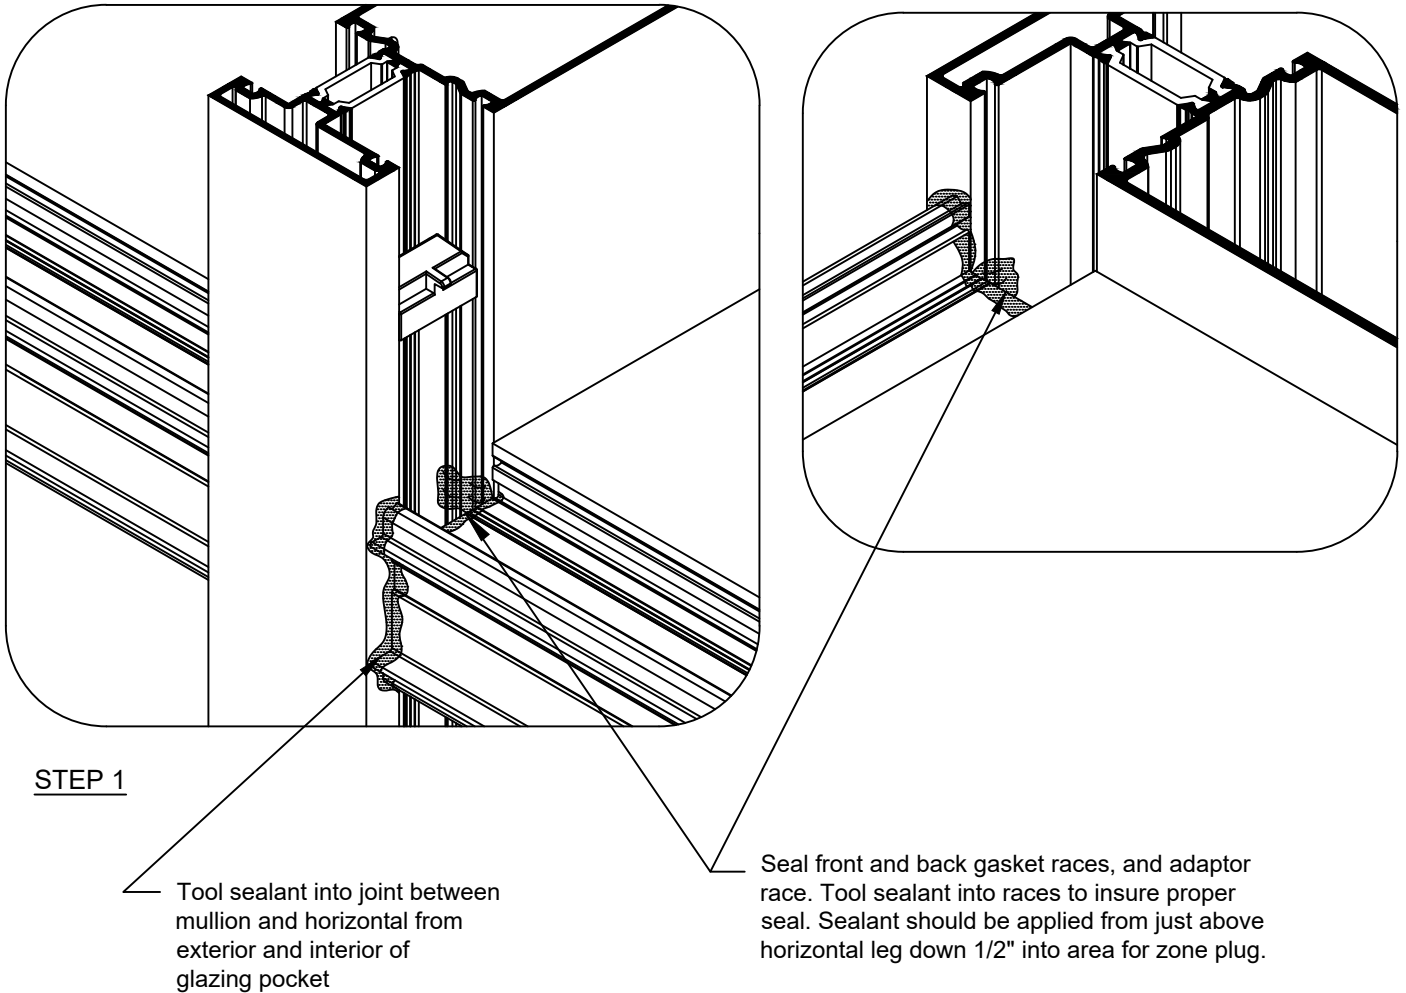

FIGURE 15
- 2.5 Apply sealant to all contact surfaces on vertical and horizontal mullions where zone plugs will be installed. Install at the end of each horizontal mullion by sliding plug down into pocket from above. Tool sealant around all sides of the zone plug in the glazing pocket to ensure a watertight seal. **SEE FIGURE 15 below & page 20 for System 1, SEE FIGURE 16, page 21 for System 2 installation.**
FIGURE 15 cont.